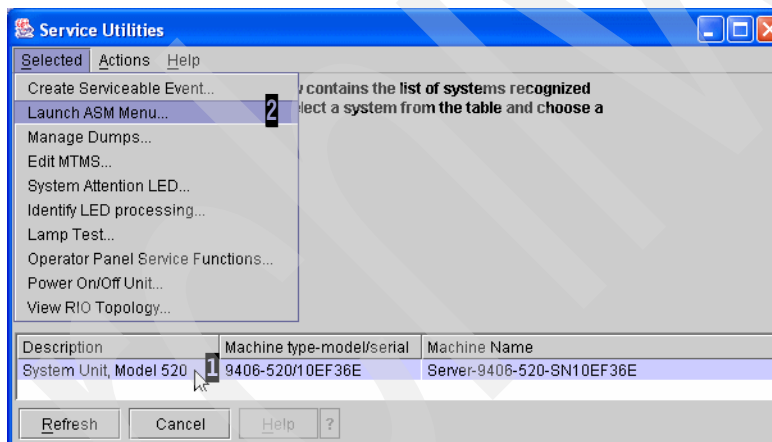

Figure 14-27 Service Utilities panel
4. The Service Utilities panel is displayed (Figure 14-27). You must first select the Managed System you wish to connect to by clicking and highlighting that system **1**. Then click on the **Selected** tab on the drop down menu tool bar and click **Launch ASM Menu** **2**.